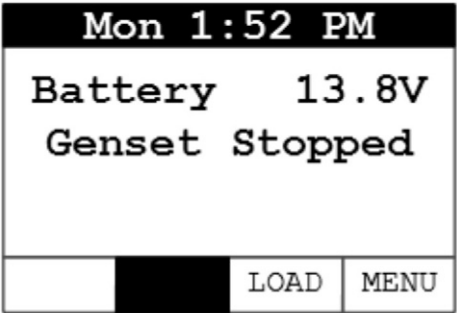

FIGURE 15. GENSET STOPPED
7. Normal operation resumes. See Figure 15.